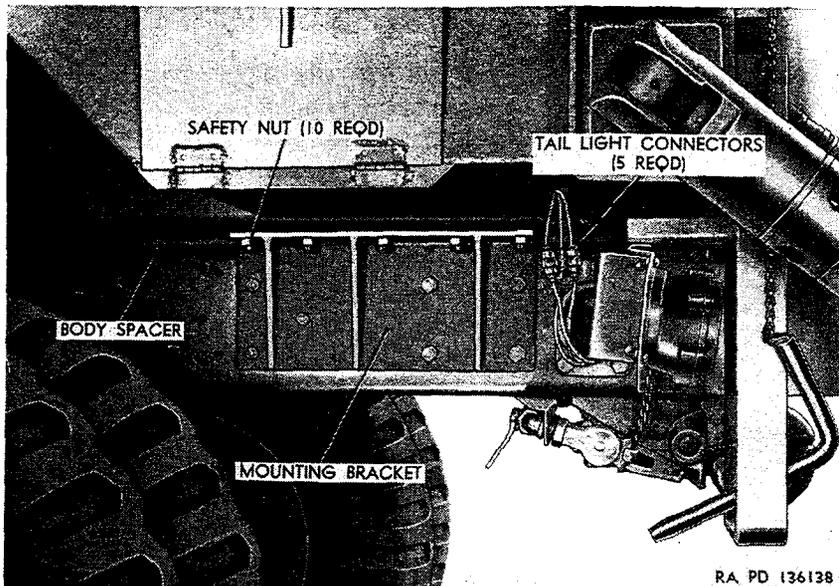

Figure 310. Crane body mounting at rear of left frame side rail M62.
- (5) Remove 10 safety nuts (fig. 310), 5 from each side, securing front of crane body to mounting brackets bolted to rear of left and right frame side rails.
- (6) Disconnect five bayonet-type taillight cable connectors (fig. 310), three at left rear corner of vehicle and two at right rear corner. Remove two clamps securing taillight cables to each side of crane body, and pull cables and connectors through body.
Note. Before lowering body, make sure that body spacers (fig. 310) are in position on frame side rails, and aline U-bolts (fig. 275) with holes in body.
- (2) Install 10 safety nuts (fig. 310), 5 on each side, on hex head bolts extending through body and brackets bolted to left and right frame side rails.
- (3) Pull taillight cables through crane body, and secure with two clamps to each side of body. Connect five bayonet-type taillight cable connectors (fig. 310), three at left rear corner of vehicle and two at right rear corner.